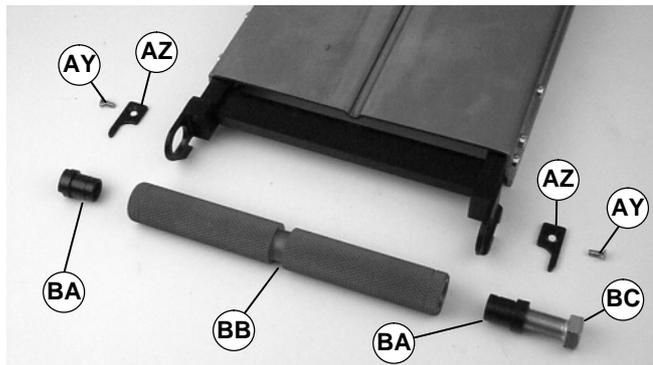

Figure 37
1. Remove the two (2) screws (AY of Figure 37).
2. Remove two clips (AZ).
3. Install bolt (part # 906-278☆) (BC of Figure 37) into bearing sleeve(s) (BA). Remove bearing sleeve(s) (BA).
NOTE: If retaining sleeve (BA of Figure 37) does not slide out: